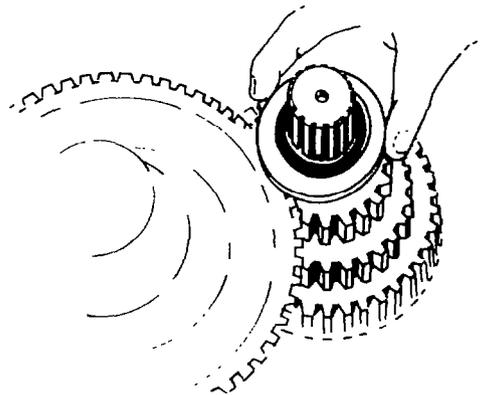

Fig. 201 — Installing Thrust Washers
- i. Install the thrust washers on each of the countershafts and retain with snap rings (see fig. 201).